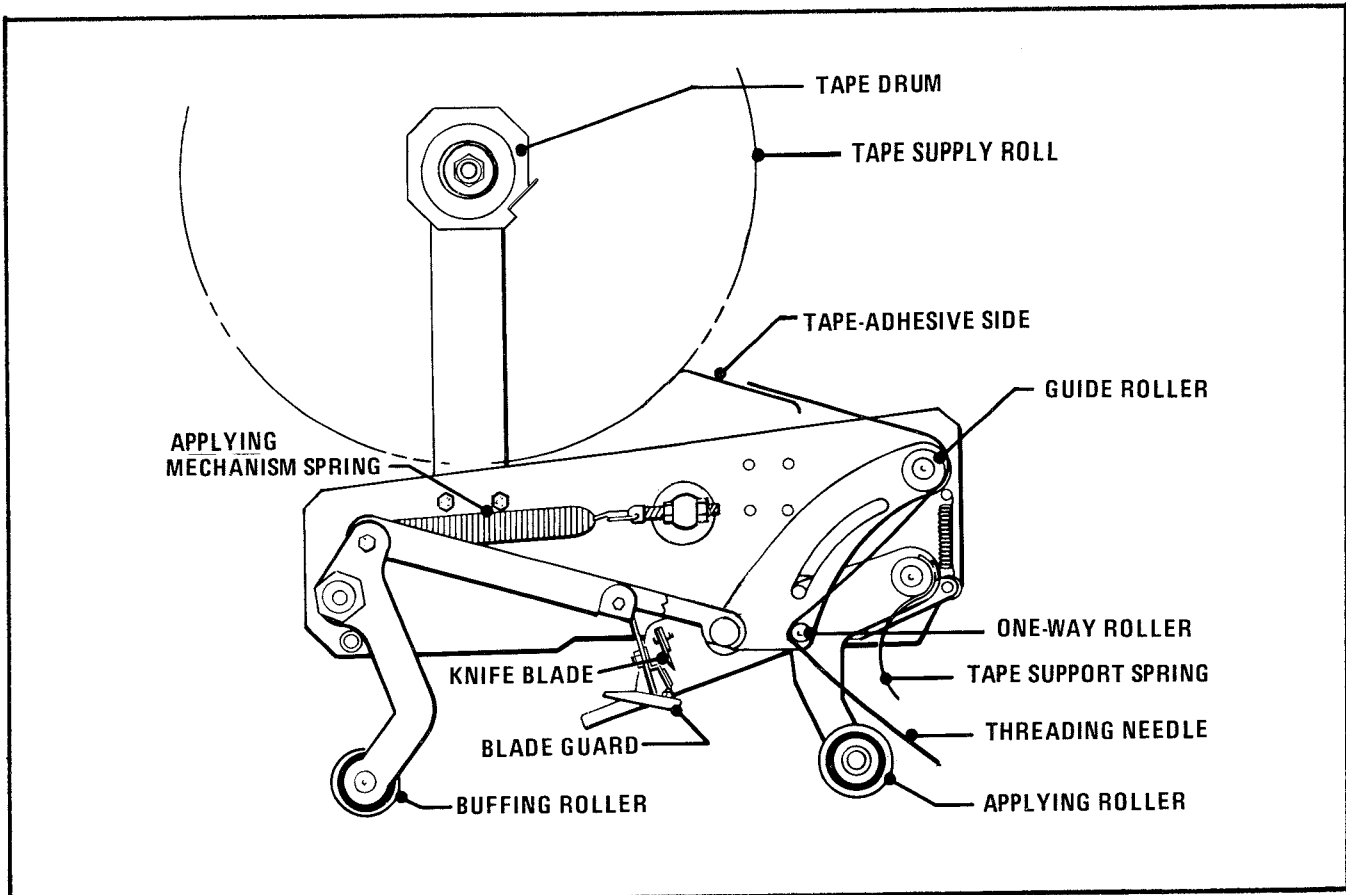

FIGURE 3A - TAPE THREADING DIAGRAM - TOP TAPING HEAD - LEFT SIDE VIEW
- 1) BOTH THE TOP AND BOTTOM TAPING HEADS UTILIZE EXTREMELY SHARP KNIFE BLADES ON THE ORANGE CUTTER LEVER ASSEMBLY AND WHICH ARE LOCATED UNDER THE GREY PLASTIC BLADE GUARD WHICH HAS THE "CAUTION - SHARP KNIFE" LABEL. BEFORE WORKING WITH THE TAPING HEADS OR ATTEMPTING TO LOAD THE TAPE, REFER TO FIGURE 3A AND IDENTIFY THE BLADE LOCATION. KEEP HANDS OUT OF THESE AREAS EXCEPT AS NECESSARY TO SERVICE THE TAPING HEADS.
- 2) NEVER MANUALLY PUSH THE APPLYING ROLLER ARM DOWN AS THIS WILL RETRACT THE BLADE GUARD AND PUT YOUR HAND IN MOTION TOWARDS THE TEETH OF THE SHARP KNIFE BLADES. REFER TO FIGURE 3A AND IDENTIFY THE APPLYING AND BUFFING ROLLERS. WHEN NECESSARY TO MANUALLY ACTUATE THE TAPE APPLYING MECHANISM, ALWAYS PUSH THE BUFFING ROLLER ARM AS IT WILL NOT DIRECT YOUR HAND TOWARDS THE KNIFE BLADE TEETH.
The taping heads are equipped with a blade oiler pad that provides a film of oil on the cut-off blade to reduce adhesive build-up. Locate the oiler pad attached to the blade guard assembly, shown in figure 3A, and apply SAE #30 non-detergent oil as needed. DO NOT SATURATE.
- 2) With the temporary threading needle already in position, as shown in figure 3A, follow the tape loading procedure from figure 3C to complete the tape threading.
- 3) For subsequent tape loading operation, use the red plastic threading needle and follow the loading procedures from figure 3A to complete the tape threading.
The S-shaped tape support spring, shown in figure 3A holds the lead end of tape in a controlled position at the applying roller. Its position is adjustable by loosening the phillips head screw on the mounting shaft, moving the spring by pivoting it around the shaft, and tightening the phillips head screw. The spring position should be adjusted so its tip is approximately 1/8 to 1/4 inch [3 to 6 mm] away from the tape when it is stretched straight between the one-way roller and applying roller.
The applying mechanism spring, shown in figure 3A, controls applying and buffing roller pressure on the box and returns the mechanism to the rest position. The spring pressure is preset for normal operation but is adjustable by means of the mounting screw.